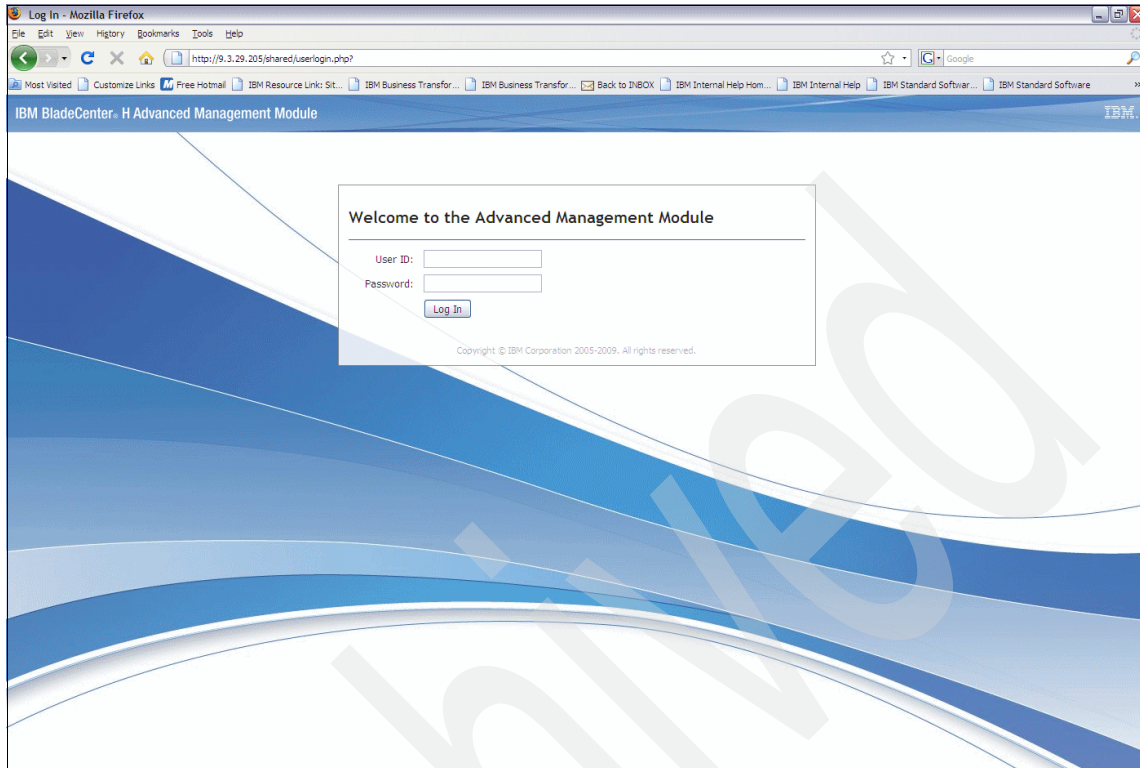

Figure A-2 AMM login panel
1. Log on to the management module with your Web browser. The default IP address of the management module is 192.168.70.125/24. Enter the user name and password and click **Log In** as shown in Figure A-2 on page 491. The default account with all administrative rights is USERID with password PASSW0RD (note the number zero).